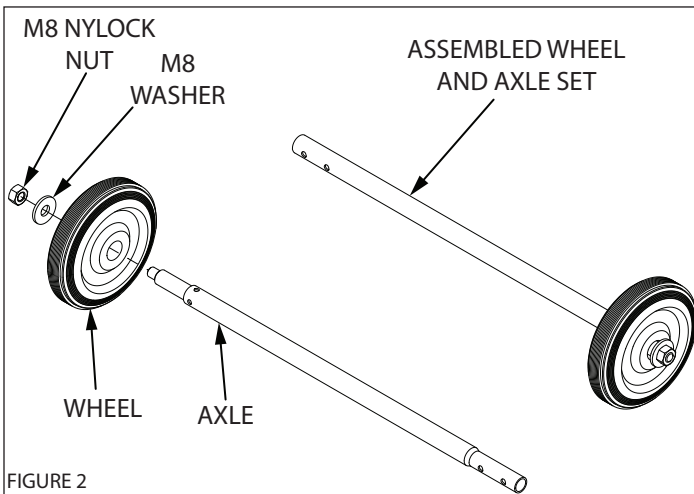

FIGURE 2
- Bolt M6 x 1.0 x 28 (2)
- Washer M8 x 24 x 2.2 Flat (12)
- Washer M8 Spring Lock (7)
- Washer M8 x 30 Domed (1)
- Washer M6 Spring Lock (2)
- Washer M10 Flat (2)
- Nut M6 x 1.0 Nylock (2)
- Nut M10 Nylock (2)
- Carabiner (4)
- Plucker Finger 46 mm (1)
4. Assemble wheel to axle (**SEE FIGURE 2**). For each axle component: